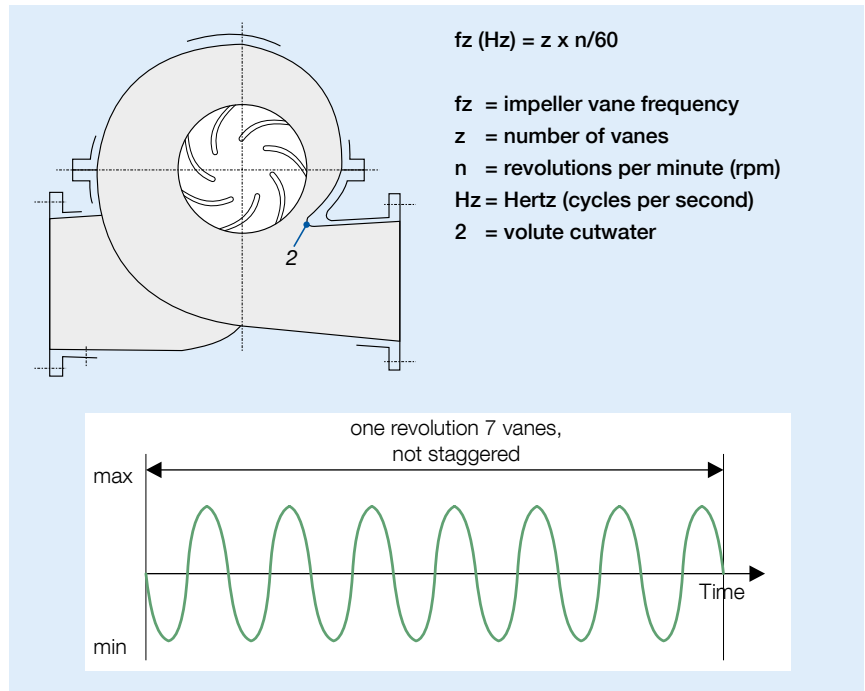

Fig. 4. Pressure pulsations at impeller vane frequencies
a) Pressure pulsations at impeller vane frequencies (fz) are initiated by each impeller vane, when passing the volute cutwater, Fig. 4.